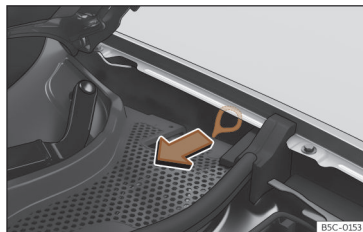

Fig. 59 Between the left wing panel and the engine bonnet hinge: Charging connector manual release mechanism puller.
The puller for the manual release mechanism is on the left hand side of the engine compartment, above the charging socket >>> **Fig. 59.**
- Pull the puller >>> **Fig. 59.**